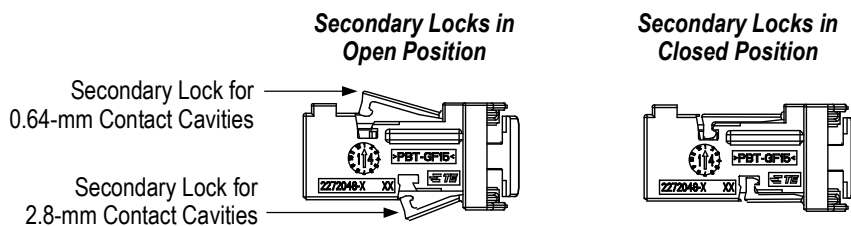

Figure 2
2. Ensure that both plug assembly secondary locks are in the open (shipped) position. See Figure 2. If a secondary lock is in the closed (locked) position, open it according to step 1 of Paragraph 2.2.